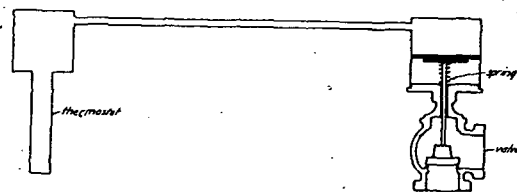

FIG. 60. EXAMPLE OF UNIT TYPE THERMOSTAT
2. The other and more elaborate class of thermostat, Fig. 60, includes the type of thermostat which controls air or liquid or electricity already under pressure, and which by controlling this outside power, operates the dampers or valves against springs or weights and similar opposition which will reverse conditions when the outside power is shut-off. There is practically no limit to the power which can be applied in this manner.